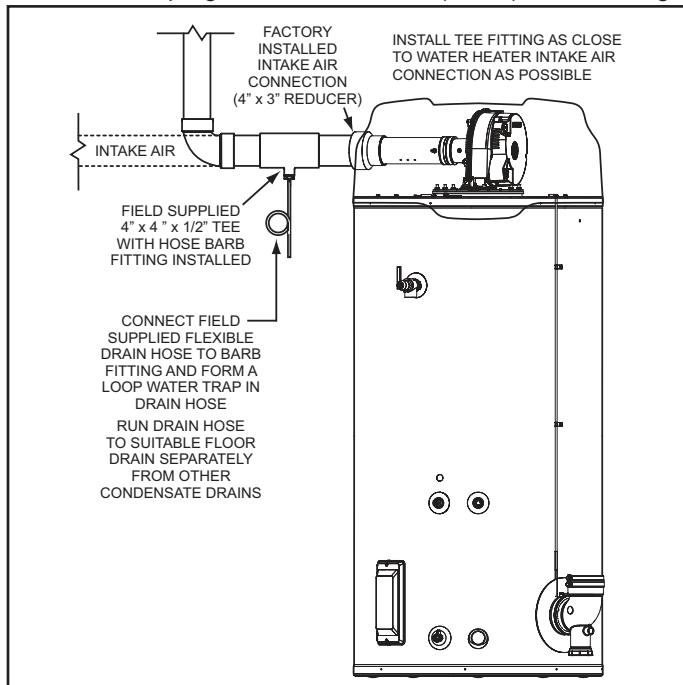

Figure 16. Intake Air Condensate Tee Installation
8. A field supplied condensate Tee fitting and drain hose must be installed in the intake air piping near the water heater in colder climates with heavy snow accumulations and in areas that regularly experience high humidity. The drain hose must be routed to an adequate floor drain separate from any other condensate drains. See **Figure 16** (page 24).
Installations with any of these conditions are required to provide a moisture drain with a trap that flows to a waste drain. See *Figure 16* (page 24) and *Figure 39* through *Figure 45* (page 34). A horizontal section of the air inlet pipe, near the heater should include a 4" by 4" by 1/2" tee and a hose barb fitting to drain the water. The tee should be as close to the heater as is practical. The drain tubing in any installation should have a loop trap and flow to an appropriate waste drain. The air intake drain line must be entirely separate from the exhaust vent outlet condensate line.